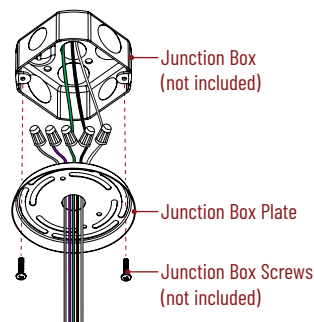

Figure 3
6. Place canopy over junction plate and secure with screws (included). (Figure 3)